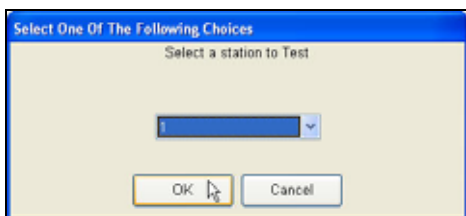

Figure 7.1.5
7. Select a single station only to test (Figure 7.1.5).